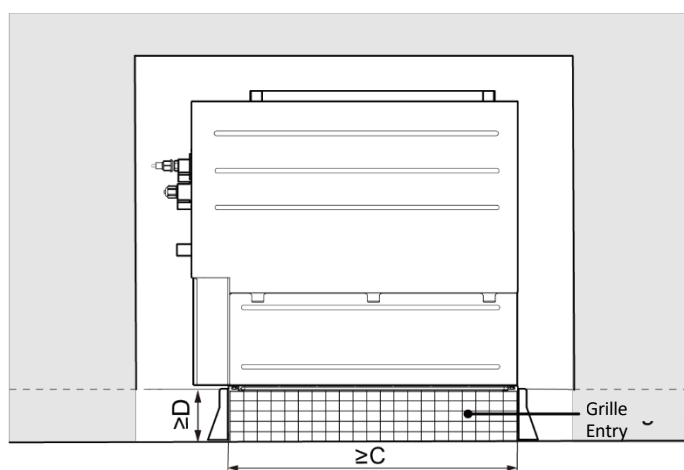

Fig. 3.2.2
- ⑦ The installation requirements for the air intake grille are as shown in Fig. 3.2.2.